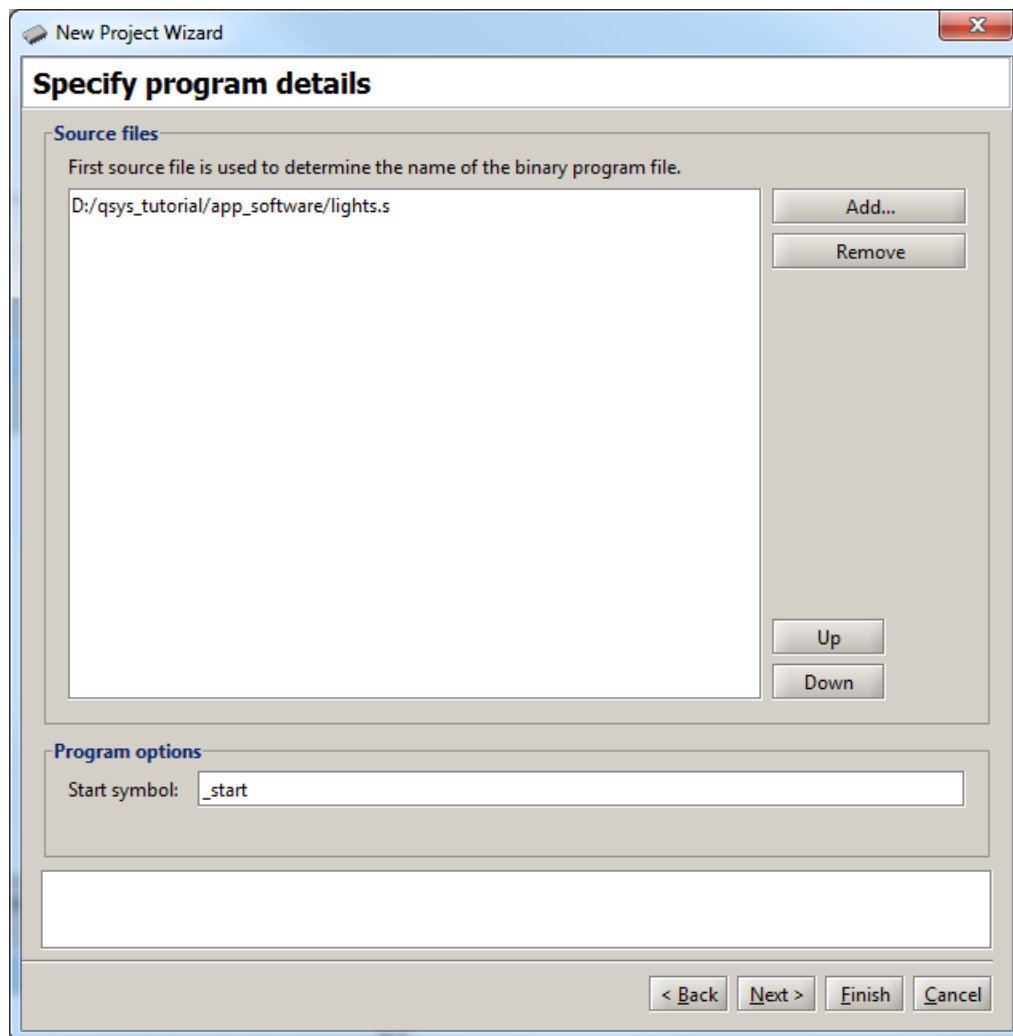

Figure 29. Specify the application program to use.
5. If you wish to use a Nios II assembly-language application program, select **Assembly Program** as the program type from the drop-down menu. If you wish to use a C-language program, select **C Program**. Click **Next**, leading to Figure 29.
6. Click **Add...** to display a file selection window and choose the *lights.s* file, or *lights.c* for a C program, and click **Select**. We placed the application-software files in the directory *qsys_tutorial\app_software*. Upon returning to the window in Figure 29, click **Next**.